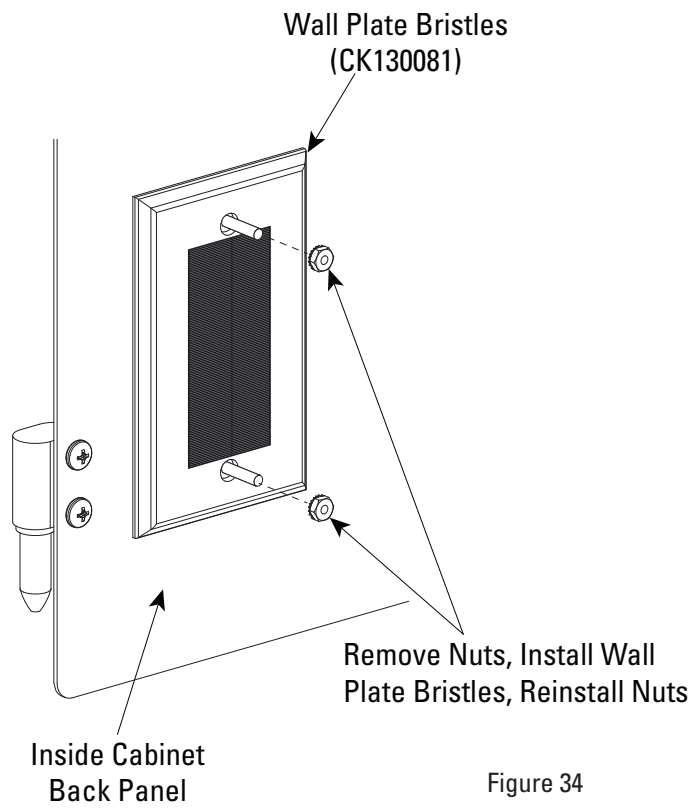

Figure 34
3. Remove the nuts holding Phone Jack Cover (788067) to the Cabinet Back Panel and attach the Wall Plate with Bristles (CK130081) provided as shown in Figure 34.